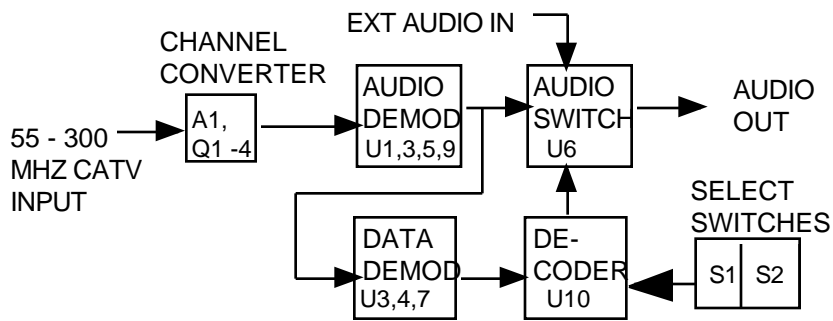

FIGURE 3.1 210-01 Block Diagram
3.1 Block Diagram Description - 210-01 (Figure 3.1) - The 50 to 300 MHz input (J1) signal first goes to the CATV tuner A1 which converts the desired input frequency to a 45 MHz IF. Commands to select the tuner frequency are provided serially from microcontroller U10. The 45 MHz signal then goes to the bandpass filter consisting of Q1 - Q4 and associated circuitry. This signal next goes to FM demodulator consisting of U1,U9 and associated circuitry. U3B and U5A provide a 12 kHz lowpass filter for the audio signal and U5B is the output audio amplifier.